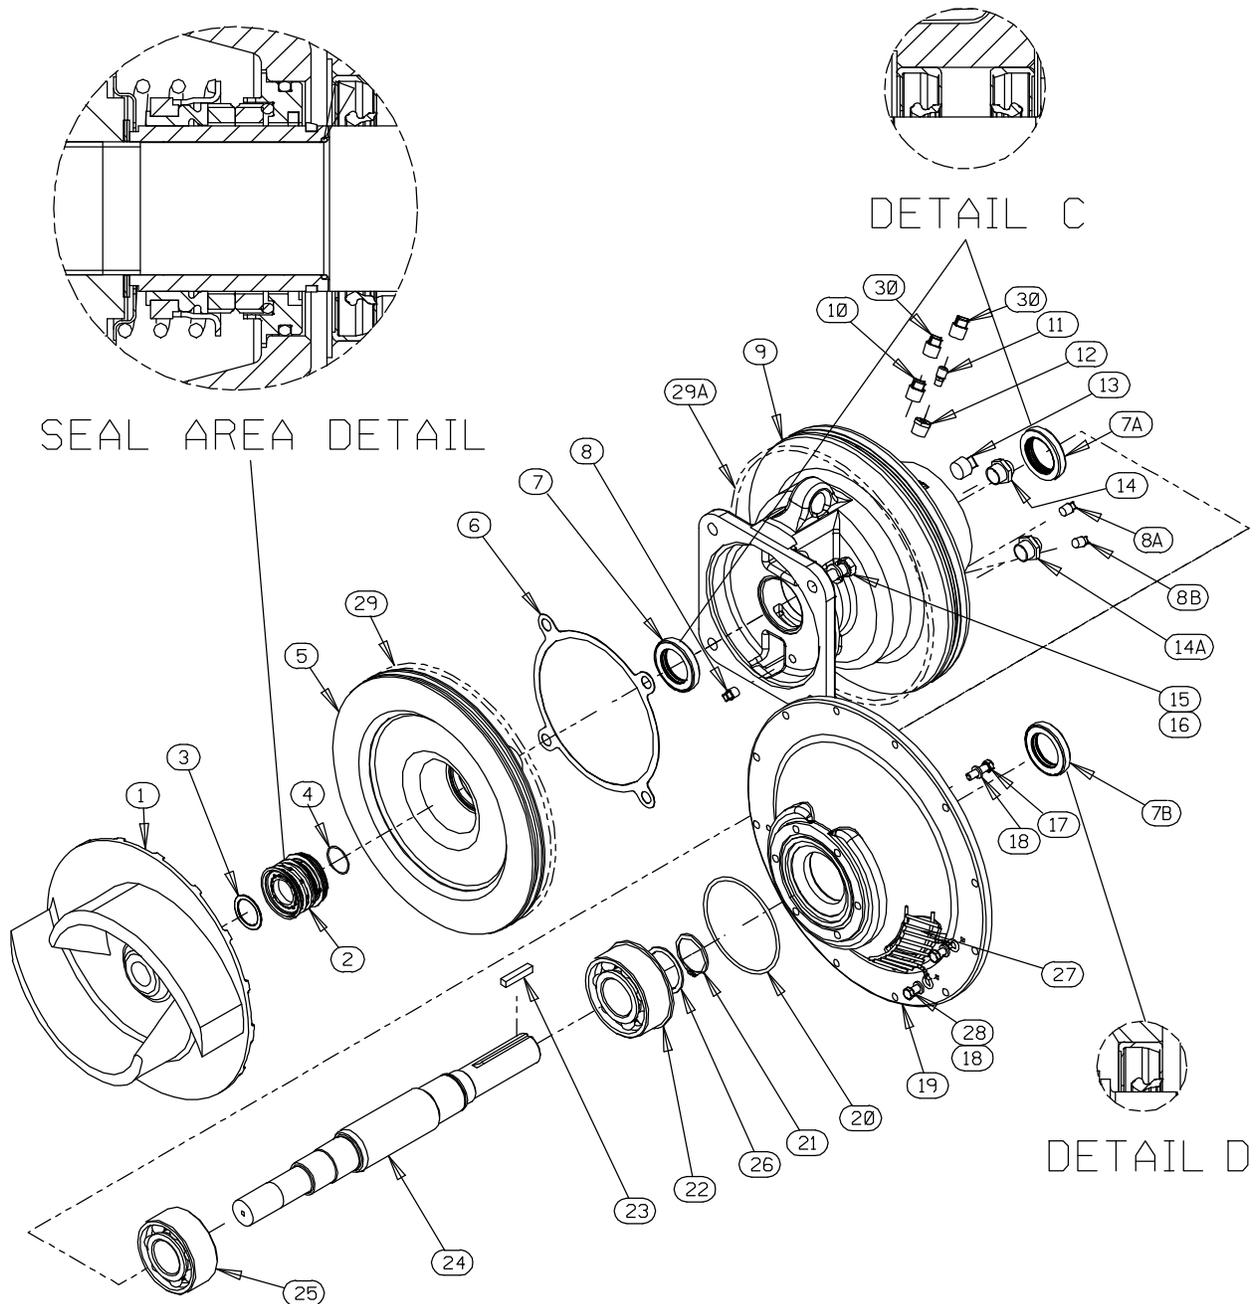

Figure 4. Repair Rotating Assembly
Disengage the hardware (6 and 7) securing the drive flange to the engine bellhousing, and remove the guards (27, Figure 4). Separate the pump end and drive assembly from the engine by pulling the pump end straight away from the engine.
As the assemblies separate, the flexible portion of the coupling assembly (3) will remain on the shaft. To remove the coupling from the shaft, unscrew the two allen head setscrews from the bushing (2). Screw one of the setscrews into the puller hole on the circumference of the bushing. As the coupling and bushing separate, remove the bushing, and slide the coupling off the shaft. Remove the shaft key (24, Figure 4).
(Figure 4)